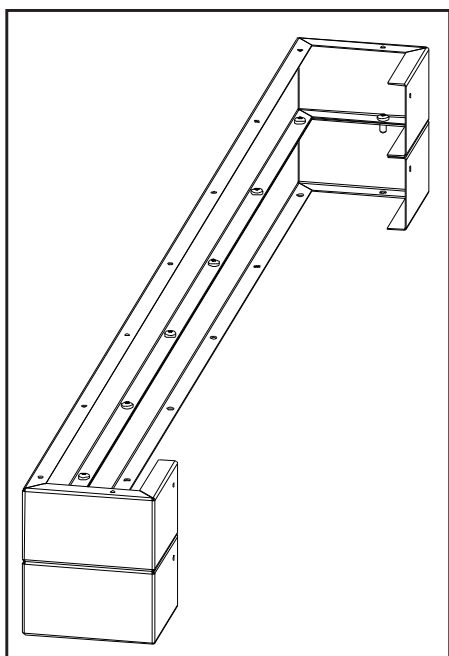

Figure 37: Combining 2 Base Shelf Risers.
2. When using more than one riser each level must be attached using nine (9) #8 T-20 screws provided (see Figure 37).